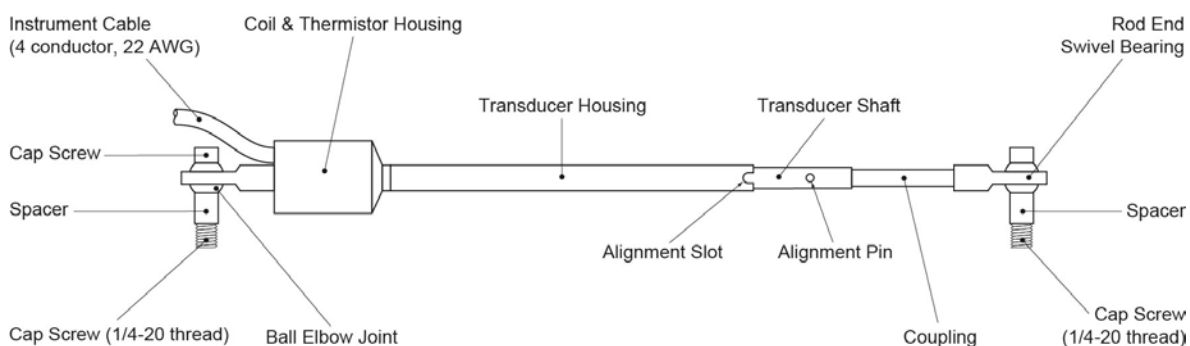
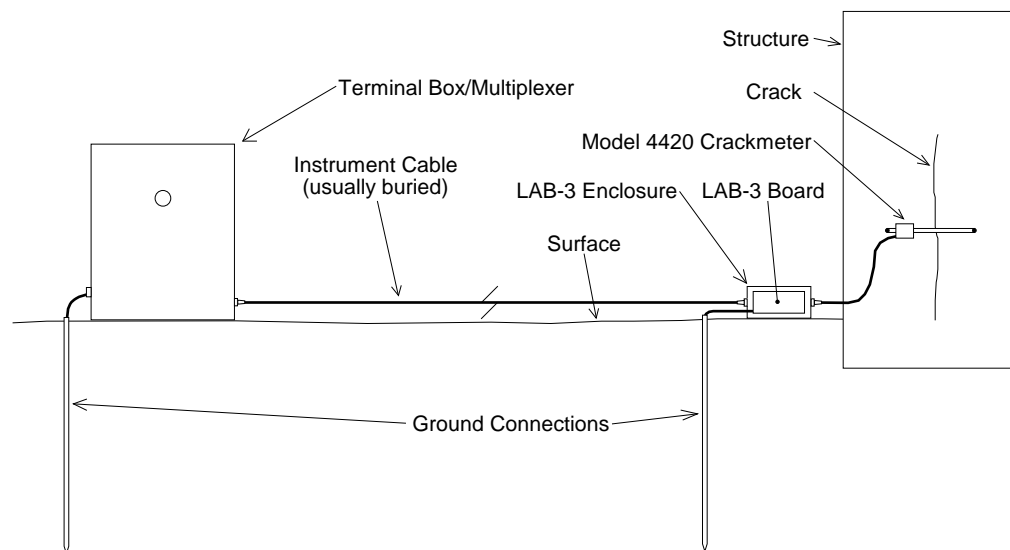

Figure 1: Model 4420-1-50/100/150/200/300 Vibrating Wire Crackmeter
Figure 8 - Lightning Protection Scheme
Note also that the calibration sheet (Figure 8) supplied with the Crackmeter shows actual readings at zero, 25%, 50%, 75% and 100% of the range of extension. These readings can be used as a guide to set the Crackmeter in any part of it's range, either in anticipation of closure or opening of the crack. The Crackmeter can be extended until the desired reading (see Section 3 for readout instructions) is obtained and then held in this position while the distance between the anchor points (threaded cap screws inside the swivel bearings), see Figure 1) is measured. This measurement can then serve as a spacing guide for drilling or welding the anchor points.
2. Assemble the Crackmeter with cap screws threaded through the swivel bearings and the spacers and threaded loosely into the groutable anchors. If installing the instrument at the mid-range position, leave the nylon tie installed (see Figure 1) that secures the transducer shaft. Fill the holes with grout or epoxy and push the anchors in until the tops are flush with the surface. For holes drilled overhead use a quick setting grout or epoxy.
- Lightning arrestor boards and enclosures are available from Geokon that install near the instrument. The enclosure has a removable top so, in the event the protection board (LAB-3) is damaged, the user may service the components (or replace the board). A connection is made between this enclosure and earth ground to facilitate the passing of transients away from the gage. See Figure 8. Consult the factory for additional information on these or alternate lightning protection schemes.